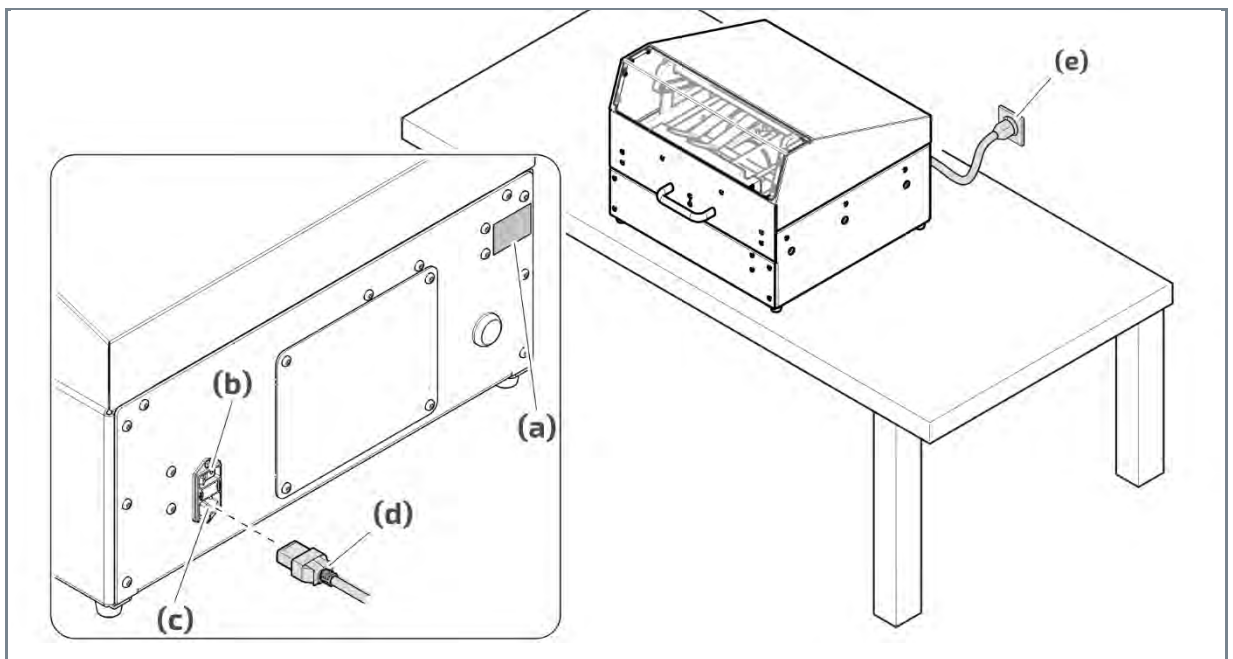

Fig. 3 Connecting the packaging machine
1. Check the existing mains voltage with the voltage indicated on the identification plate **Fig. 3 (a)** for conformity.
2. Switch the main switch **Fig. 3 (b)** of the packaging machine to "0".
3. Plug the power cable **Fig. 3 (d)** into the socket on the machine **Fig. 3 (c)**.
4. Connect the mains plug of the power cable **Fig. 3 (e)** to a power socket.